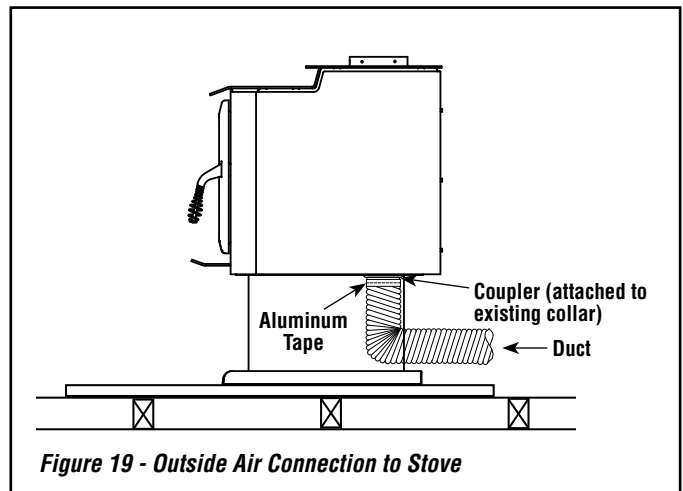

Figure 19 - Outside Air Connection to Stove
- Attach the duct to the coupler on stove (see **Figure 19**). Using the aluminium tape provided, wrap the tape around the joint between the flexible duct and the air inlet.